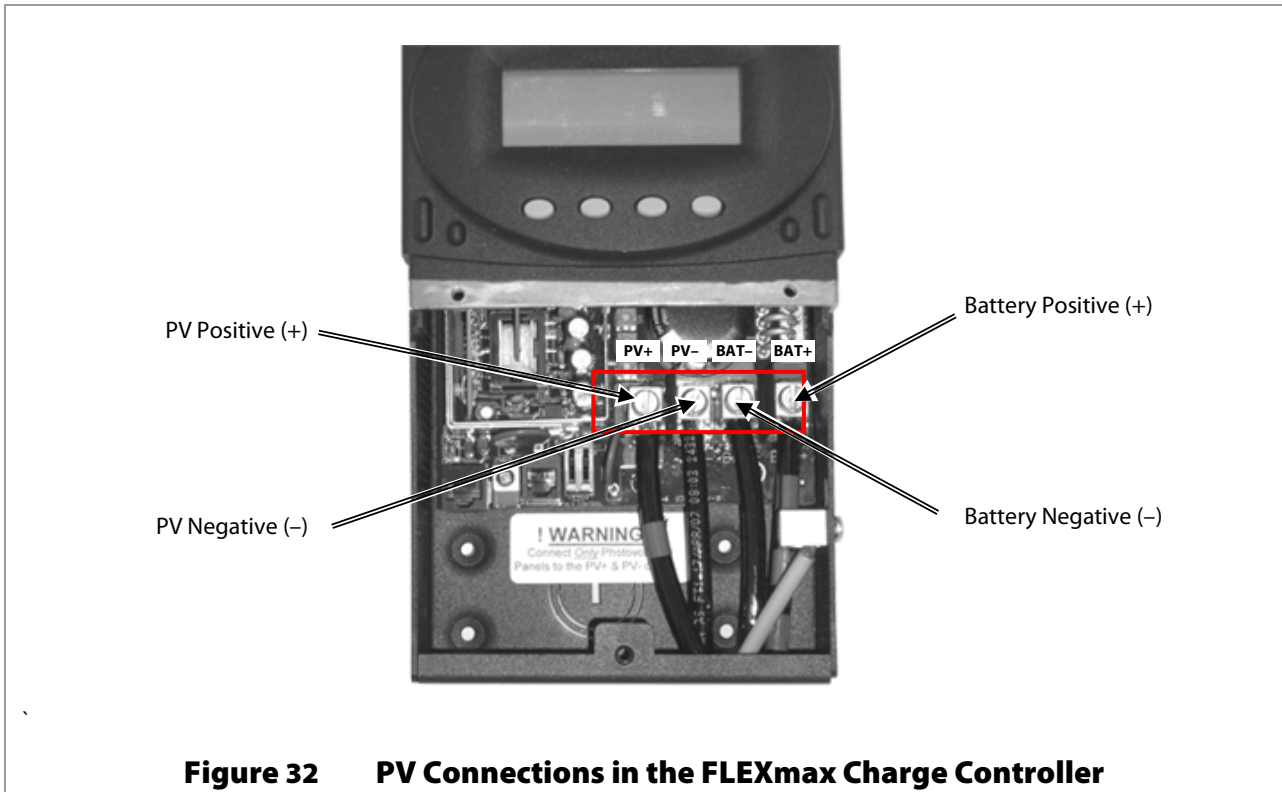

Figure 32 PV Connections in the FLEXmax Charge Controller
2. Connect the PV negative wire to the charge controller's PV negative (-) terminal (see Figure 32).